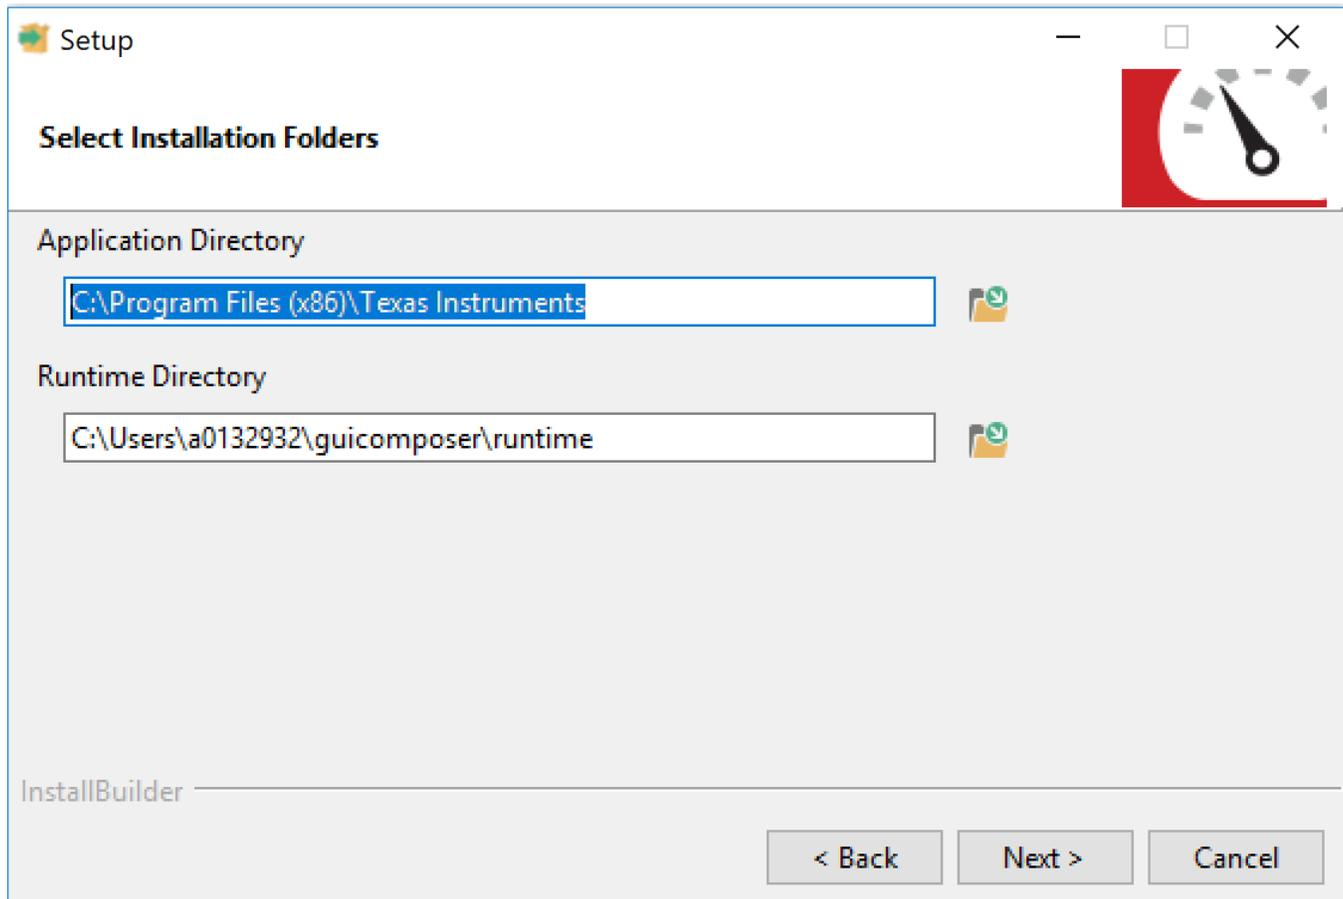

Figure 6. Installation Directory
Step 5. Select the installation directory. TI recommends using the default installation directory. Click the *Next* button when the directory is determined (see Figure 6).